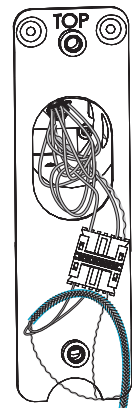

Fig. 8B
2. If fire kit is not being used, install (2) #8 x 1/2" in upper mounting plate holes.
4. Carefully tuck ElectroLynx connectors into 1 inch hole in door (Fig. 8B). Note: Cylindrical lock depicted.